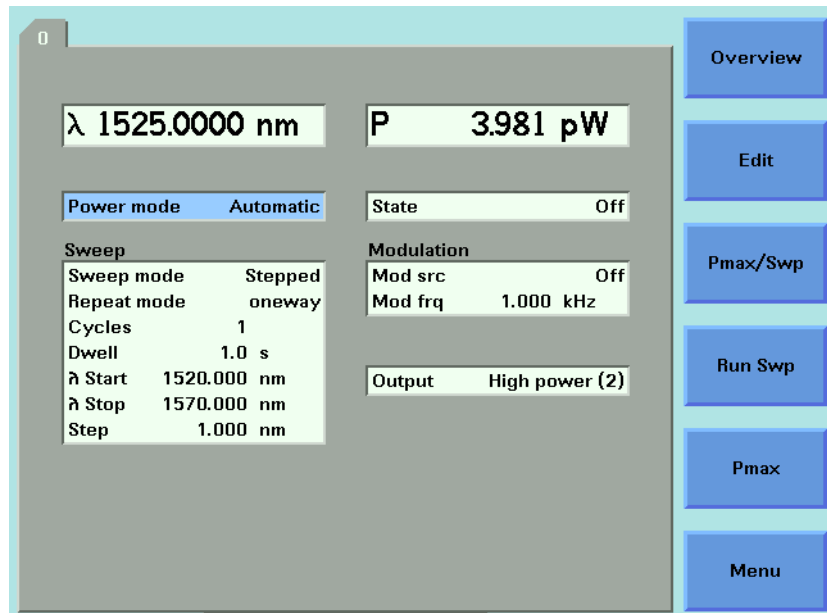

Figure 63 Setting High Power parameters
- <High Power (2)>, a high power optical output, for example, for use in testing Erbium Doped Fiber Amplifiers (EDFAs), you see a screen similar to Figure 63 ,
- 6 If [Power Mode] is not set to <Manual Att.> (see Figure 63), that is, it is set <Automatic>, perform the following steps: